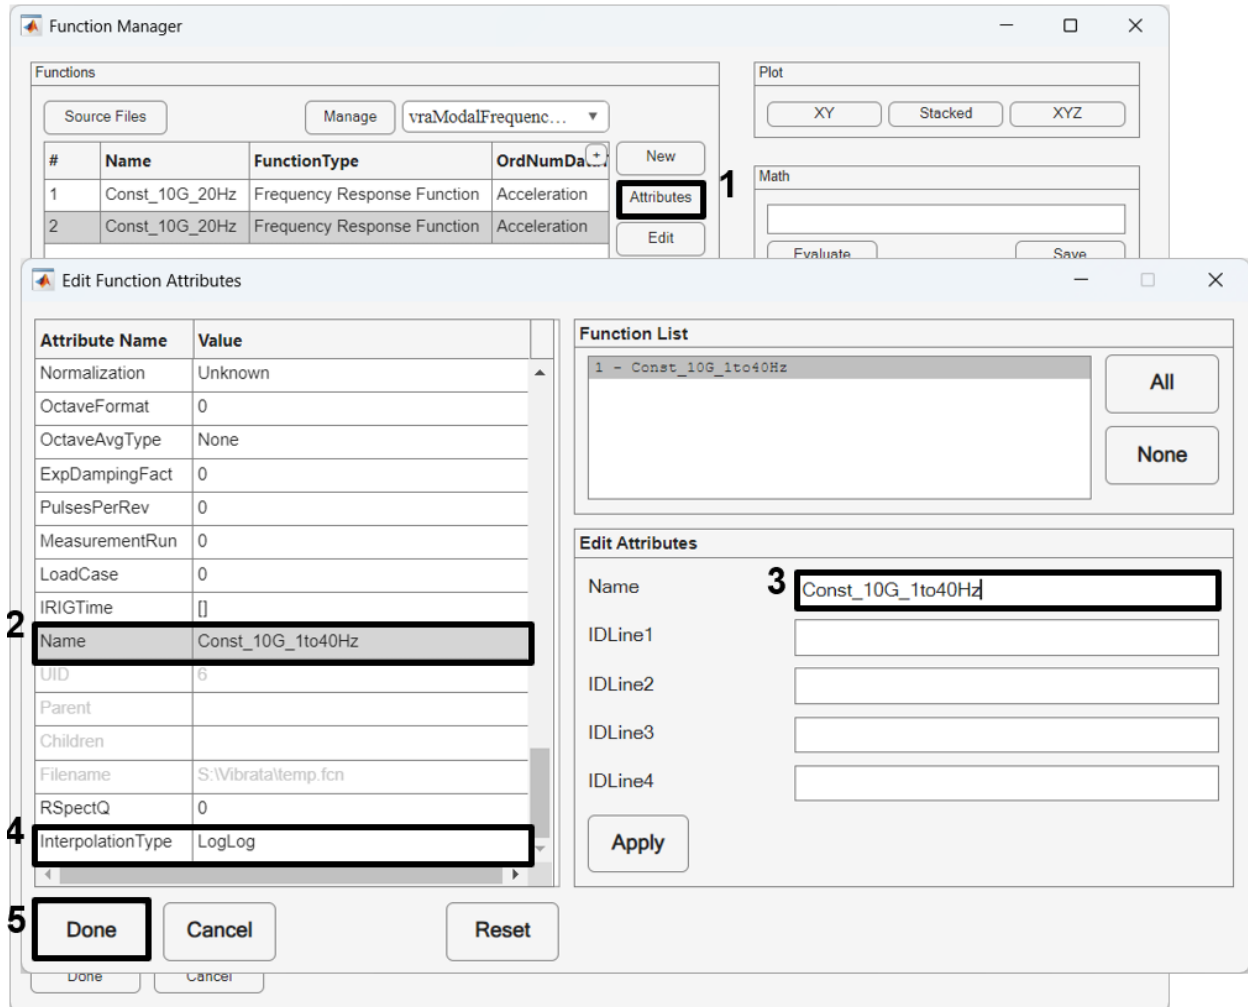

Figure 4-29. Edit the new function's name and make it use log-log interpolation.
- c. With the new function still selected, click the **Attributes** button to open the *Edit Function Attributes* dialog; change the interpolation method to *LogLog* and its name to "Const_10g_1to40Hz" (Figure 4-29). Click **Done** to close the dialog and save the changes.